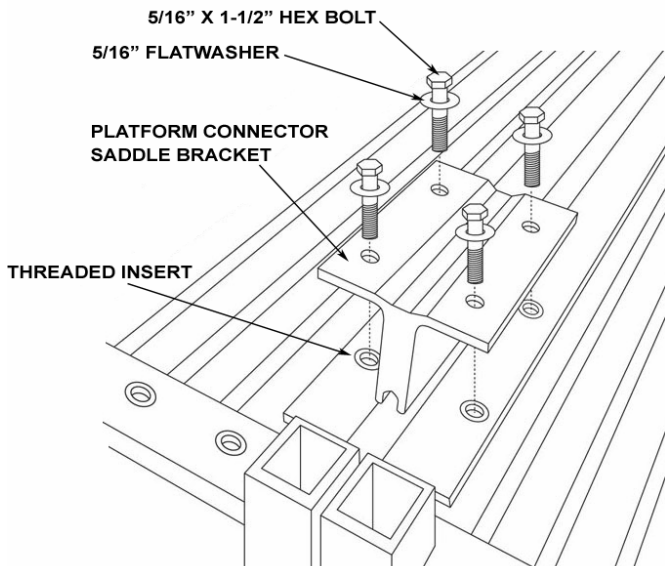

FIG 8
- iii) Attach platform connector saddle bracket (two each) into existing threaded inserts using 5/16" x 1 1/2" hex bolts (four per bracket) and 5/16" flat washers (four per bracket) as shown in FIG 8. **DO NOT OVER TIGHTEN.**